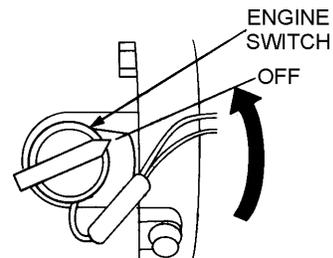

Figure 17. Engine ON/OFF Switch (OFF)
- After the engine **cools**, turn the engine ON/OFF switch to the “OFF” position (Figure 17).